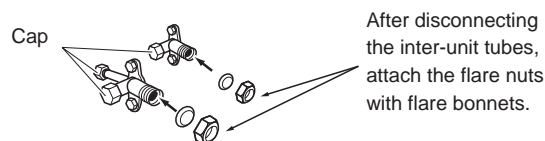

Fig. 25
- (4) Disconnect the manifold gauge and the inter-unit tubes, and attach the caps and flare nuts. At this point, pump-down is completed. (If the caps and flare nuts are not reattached, there is the danger of gas leakage.) (Refer to Fig. 25.)